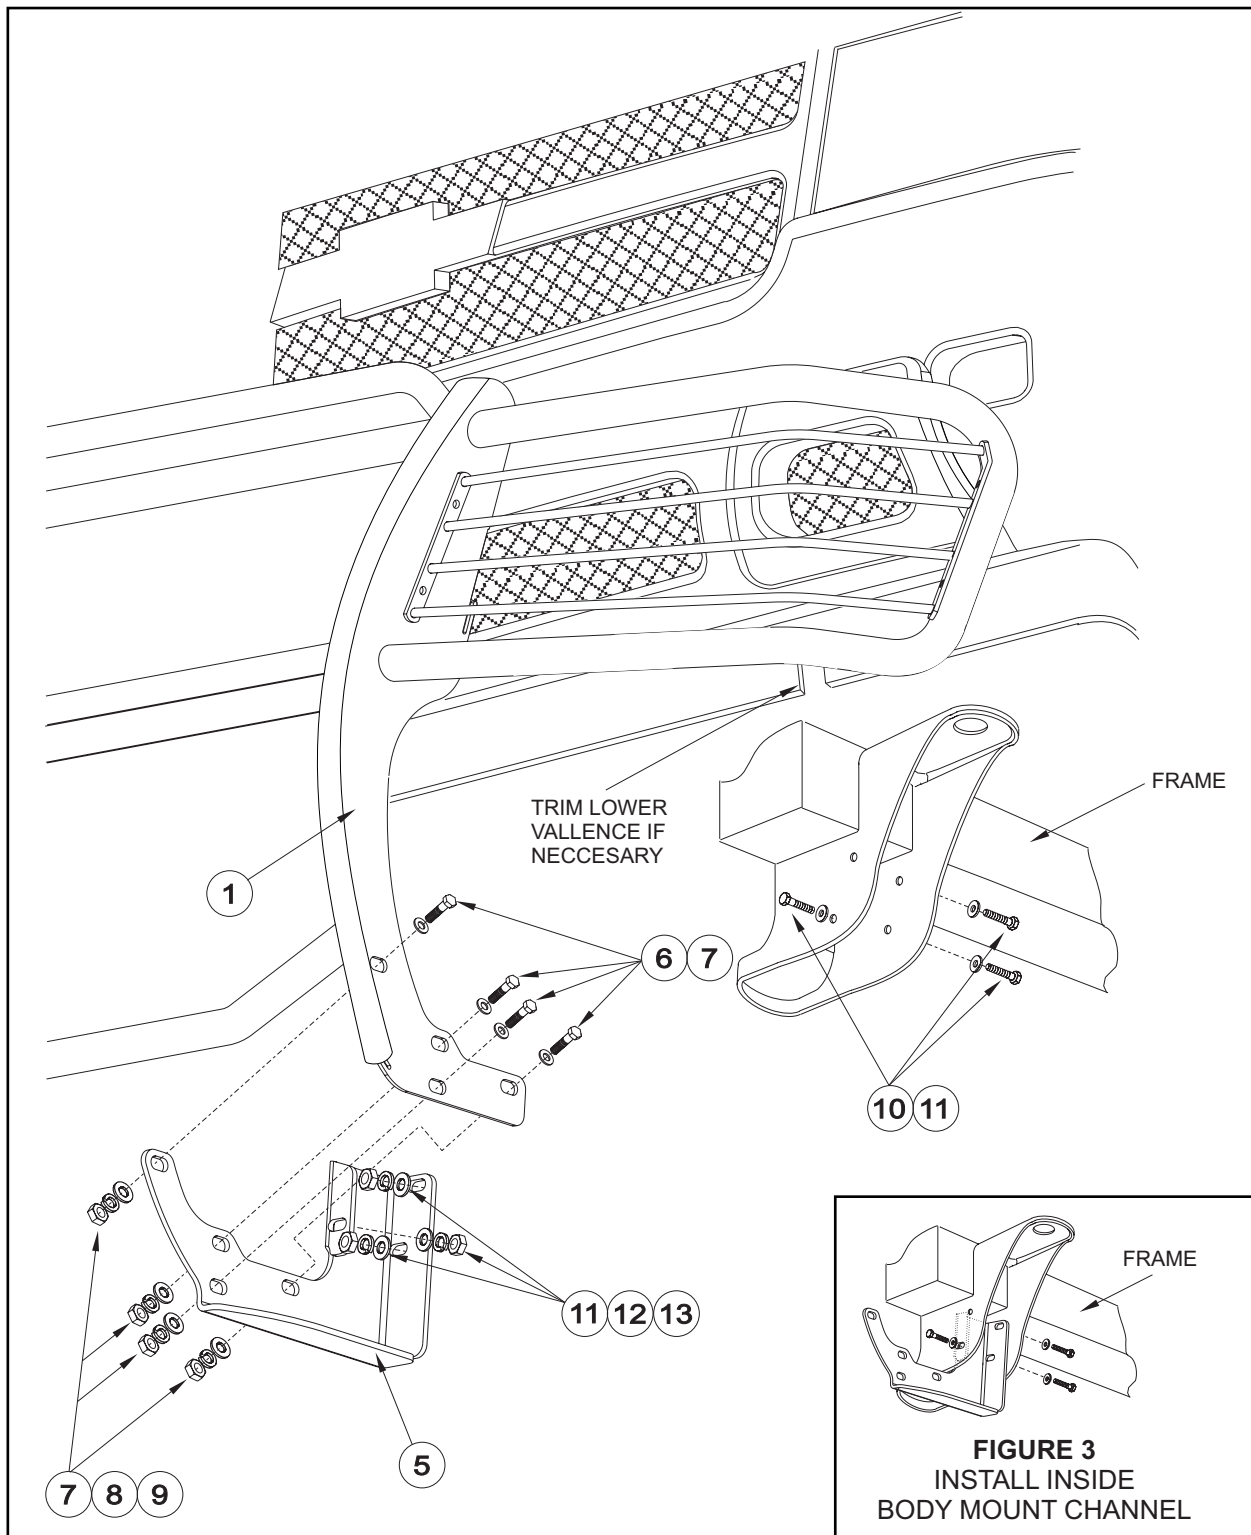

FIGURE 2
- STEP 3. From underneath the front of vehicle, locate the front body mount. Determine passenger and driver side mount brackets. Install brackets inside body mount channel with 3/8" fasteners as shown. **SEE FIGURES 2 AND 3.** Hand tighten. It may be necessary to trim lower valance.
NOTE: The upright legs will mount to the outside face of the brackets. Secure the Sportsman to the brackets using 1/2" fasteners. **SEE FIGURE 2**